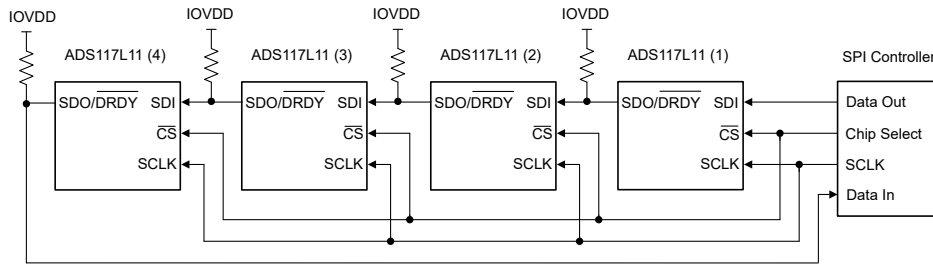

Figure 8-36. Daisy-Chain Connection
Figure 8-36 illustrates four devices connected in a daisy-chain configuration. The SDI of ADS117L11 (1) connects to the host SPI data out, and SDO/DRDY of ADS117L11 (4) connects to the host SPI data input. The shift operation is simultaneous for all devices in the chain. After each ADC shifts out the conversion data, the data of SDI appears on SDO/DRDY to drive the SDI of the next device in the chain. The shift operation continues until the last device in the chain is reached. The SPI frame ends when $\overline{\text{CS}}$ is taken high, at which time the data shifted into each device is interpreted. The SDO/DRDY pin must be programmed to data output-only mode.
Figure 8-38 shows the detailed input data sequence for the daisy-chain write register operation of Figure 8-36. 32-bit frames for each ADC are shown (16 bits of data, with the STATUS and CRC bytes enabled). Command operations can be different for each ADC. The read register operation requires a second frame operation to read out the register data.
Figure 8-39 illustrates the clock sequence to read conversion data from the device connection in Figure 8-36. This example illustrates a 24-bit output frame (16-bits of data, with the CRC byte enabled). The output data of ADC (4) is first in the sequence, followed by the data of ADC (3), and so on. The total number of clocks required to shift out the data is given by the number of bits per frame × the number of devices in the chain. In this example, 24-bit output frames × four devices result in 96 total clocks.